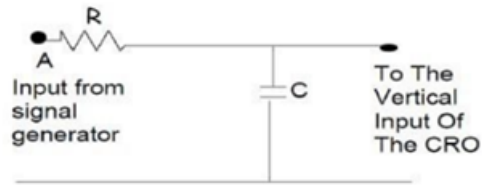

Figure 8.2 Connection diagram of CRO
3. Connect the output of phase shift network to the vertical input as shown in Figure 8.2.